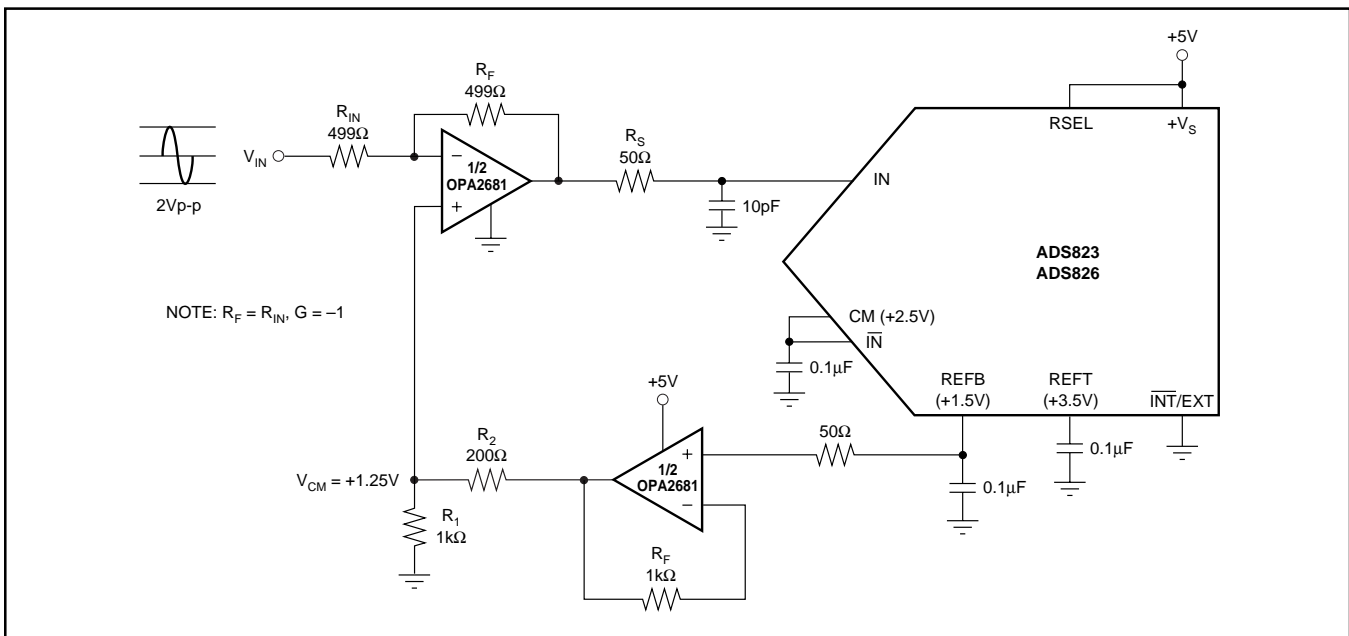

FIGURE 4. DC-Coupled Interface Circuit with Level-Shifting, Dual Current-Feedback Amplifier OPA2681.
Several applications may require that the bandwidth of the signal path includes DC, in which case the signal has to be DC-coupled to the ADC. In order to accomplish this, the interface circuit has to provide a DC level shift to the analog input signal. The circuit in Figure 4 employs a dual op amp, A1, to drive the input of the ADS823 and ADS826, and level shift the signal to be compatible with the selected input range. With the RSEL pin tied to the supply and the INT/EXT pin to ground, the ADS823 and ADS826 are configured for a 2Vp-p input range and uses the internal references. The complementary input (IN) may be appropriately biased using